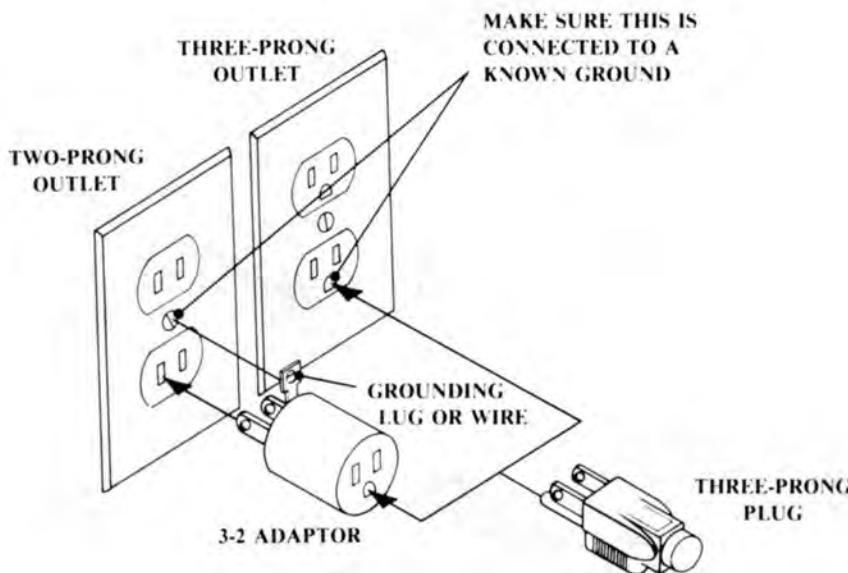

FIGURE 1-2. GROUND CONNECTION
- Connect the power cord to the back of the plotter and to the power source. See Figure 1-1. The plotter's ground circuitry protects you from electrical shock. However, this protection is effective only if the ac outlet is properly grounded to earth. If the plotter is connected to a two-contact wall outlet, a 3/2 adaptor with grounding lug/wire may be used. This type of connection is illustrated in Figure 1-2. Be sure to read the important safety instructions in the front of this manual before operating the plotter. To assure FCC and CDC Class B compliance, you **MUST** use a shielded power cord (provided with the unit).